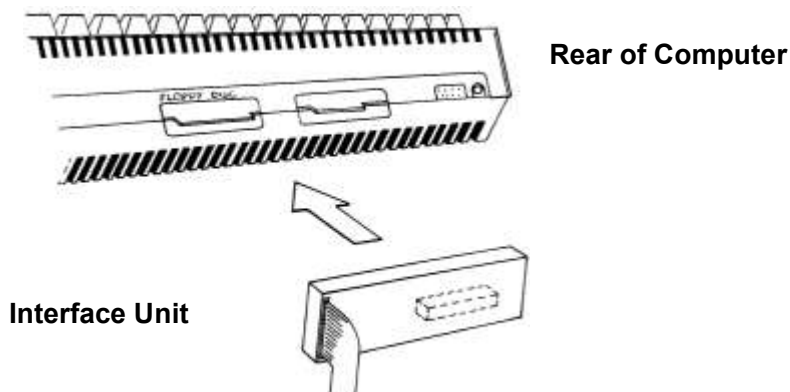

Figure 1
2. Plug the Interface Unit firmly into the edge-connector marked FLOPPY DISC at the rear of the computer (See Figure 1)